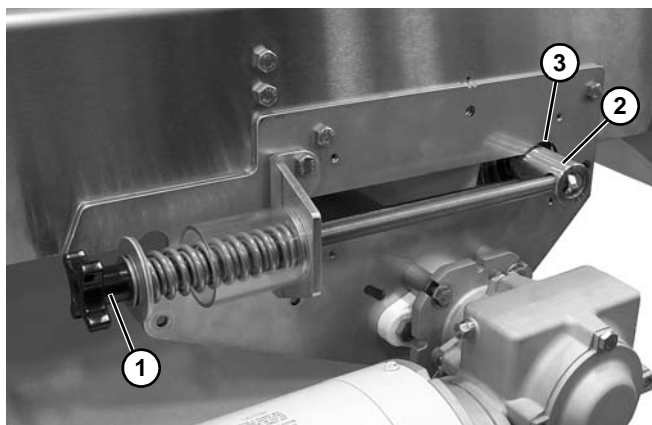

Figure 53
12. Loosen tension nut (**Figure 53, item 1**) on each side of the center drive so that the tension pulley spacer (**Figure 53, item 2**) aligns with hole (**Figure 53, item 3**).